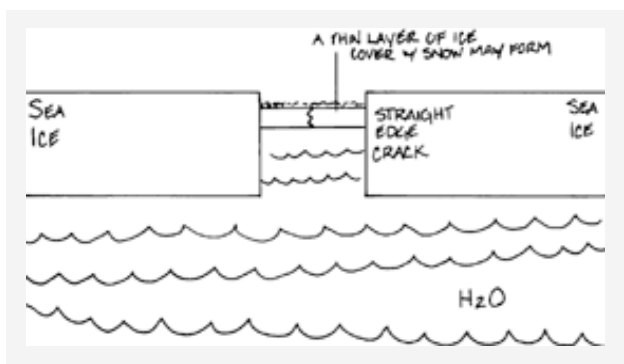

Figure 17-1: Straight edge Crack.
- **Straight Edge Cracks** (see figure 17-1 below) form as tension is released in the ice sheet. The ice thickness at the edge of this crack will be the same as the surrounding ice thickness. These cracks typically form quickly, and the crack shows either open water or a thin layer of ice covered with snow.